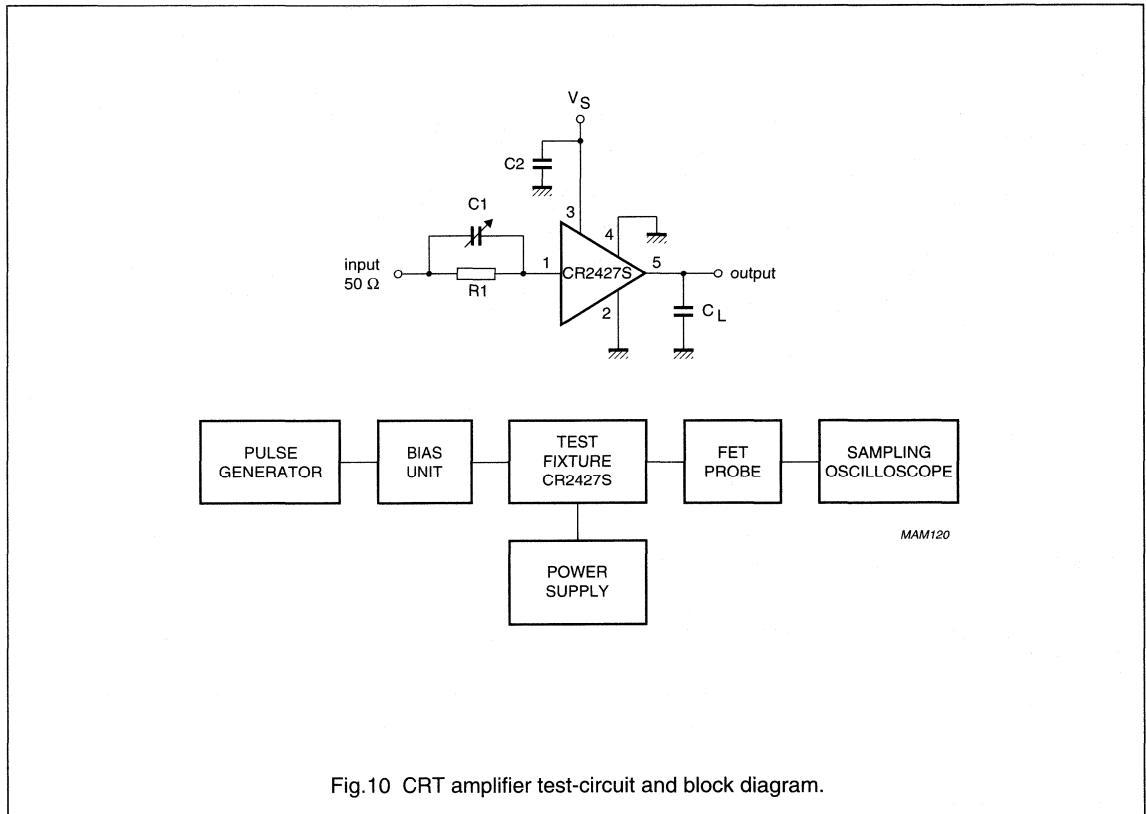

Fig.10 CRT amplifier test-circuit and block diagram.
1. Input signal is a nominal 100 kHz square wave of 3.25 V (p-p), with 1.5 V (DC) offset (50  $\Omega$  source).
2. Input signal is a nominal 100 kHz square wave of 3.4 V (p-p), with 1.65 V (DC) offset (50  $\Omega$  source).
4. Measured  $V_O/V_I$  (Figs 2 and 6) at input test circuit (see Fig.10).
5. Measured  $V_O/V_I$  (Figs 3 and 7) at input module (see Fig.10).
## Components used in test-circuit (see Fig.10)
## Equipment used in test-circuit (see Fig.10)